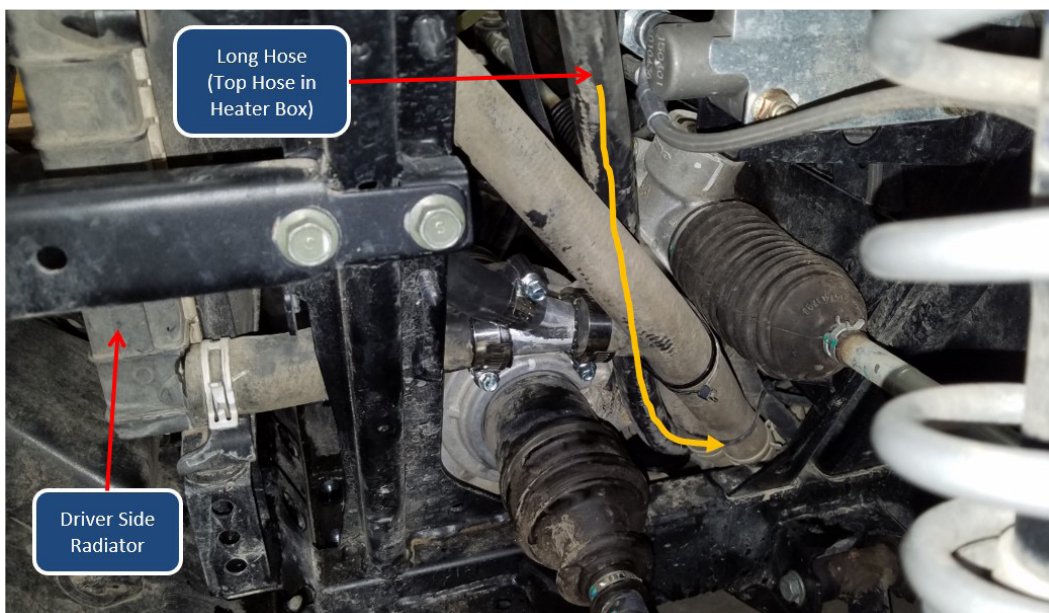

FIGURE 16
41. Route the long piece of $\frac{5}{8}$ " radiator hose to the driver side of the radiator and follow the upper 1" factory radiator line toward the center tunnel as shown in **FIGURES 16 & 17**. The yellow arrow indicates the path of the $\frac{5}{8}$ " radiator hose.